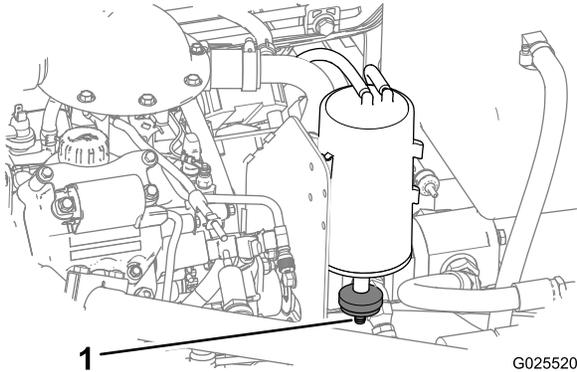

Figure 58
1. Locate the air filter on the bottom of the carbon canister (Figure 58).